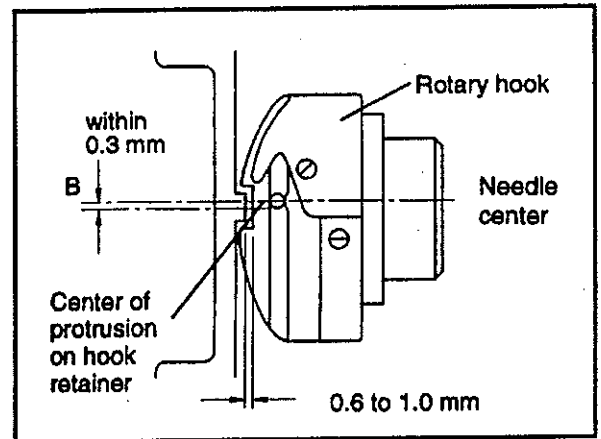

FIG.1
- (1) Replace the work table.
- (2) Remove the needle plate.
- (3) There must be a clearance of 0.6 to 1.0mm between the hook retainer and the rotary hook (Fig.1).
- (4) Distance B (clearance between the needle center and the center of the protrusion on the hook retainer) must not exceed 0.3mm (Fig.1).